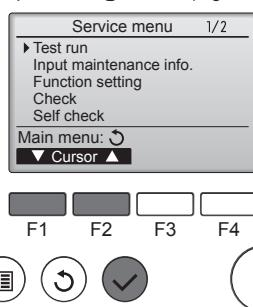

Fig. 6-3
- ③ Select "Test run" with the F1 or F2 button, and press the ② button. (Fig. 6-3)